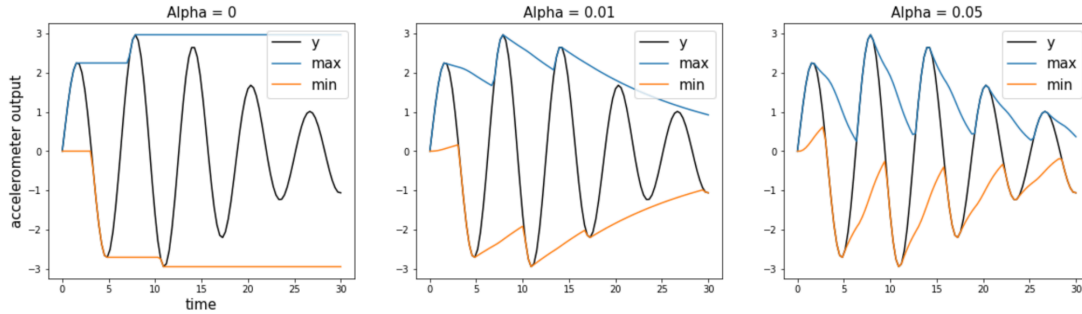

Figure 6. Keeping track of max and min values with different α values.
6. [Implementing the elastic envelope] Our goal is to estimate the amplitude A of the acceleration formula $A \cos(2\pi ft + \phi)$. However, the previous step only finds the max and min accelerations **of all time**. In order to keep track of the max and min value of the most recent values, we need to “forget” the previous max and min. We can store only the most recent N values in an array, and find the max and min values of the array in every loop iteration. But doing so would use a lot of memory. Here, we will use an alternative approach to “decay” the max and min values toward the mean. You can think of the max and min values as the envelope of the sinusoid, and this method gives this envelope elasticity as it constantly narrows inward (Figure 6). The width of the envelope is the approximation of $2A$. We can update the max and min values with the following formulas: